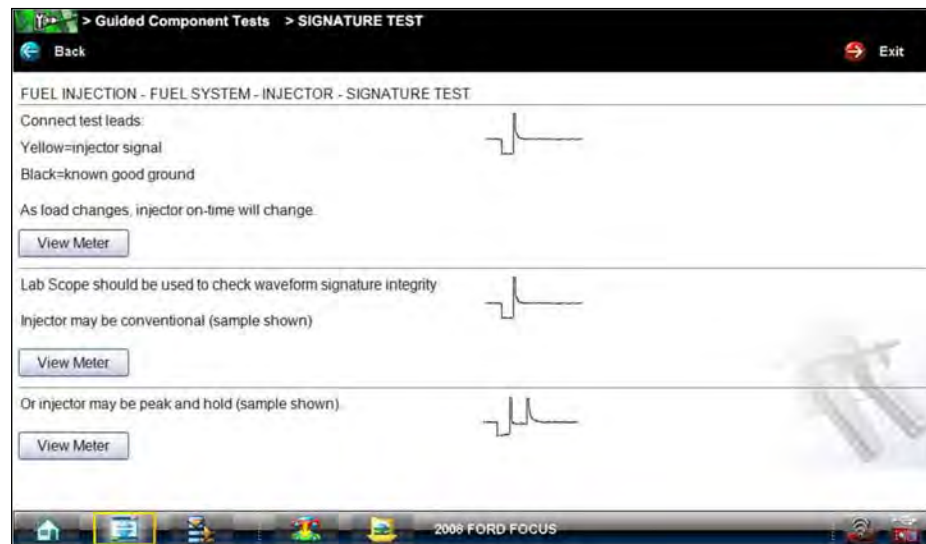

Figure 7-9 Sample Test screen
3. Select a test option and the test screen displays (Figure 7-9).